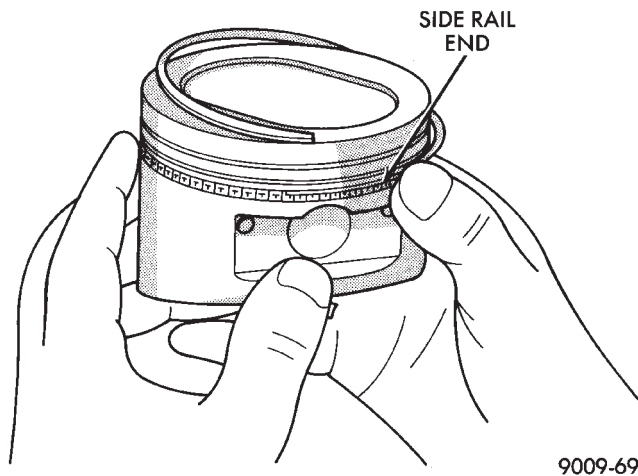

Fig. 91 Side Rail—Installation
- (2) Oil ring expander.
- (3) Upper oil ring side rail.
- (4) Lower oil ring side rail.
- (5) No. 2 Intermediate piston ring.
- (6) No. 1 Upper piston ring.
(7) Install the side rail by placing one end between the piston ring groove and the expander. Hold end firmly and press down the portion to be installed until side rail is in position. **Do not use a piston ring expander during this step (Fig. 91).**